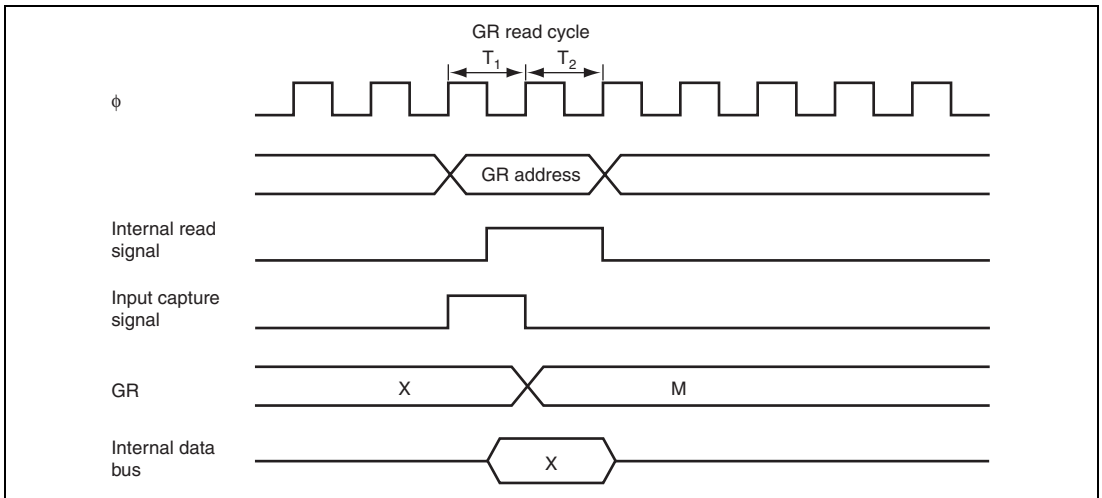

Figure 14.56 Contention between GR Read and Input Capture
5. Contention between GR Read and Input Capture: If an input capture signal is generated in the T_1 state of a GR read cycle, the data that is read will be transferred before input capture transfer. Figure 14.56 shows the timing in this case.